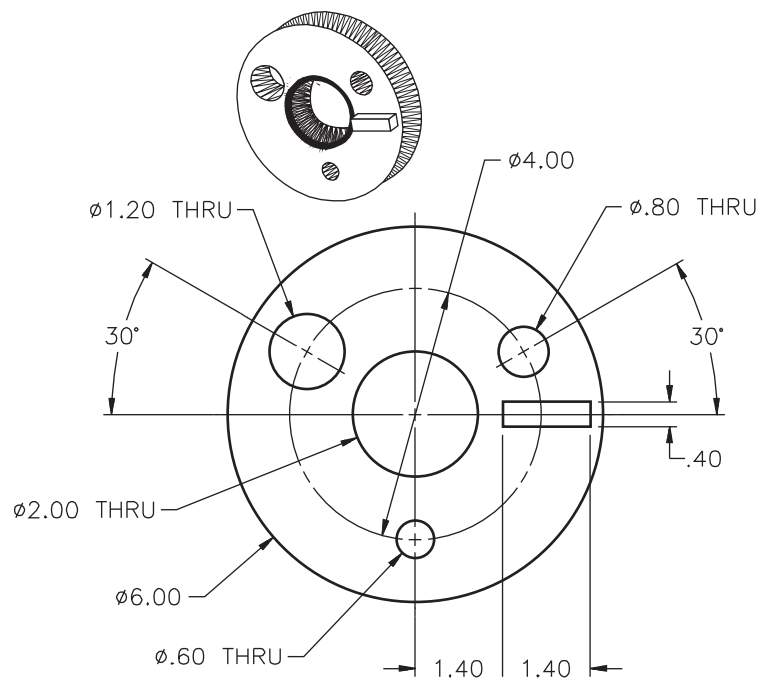

Fig. 7-15
6. Draw the front view of the locking end cap shown in Fig. 7-15. Start the drawing at the center of the object using absolute coordinates of **5,5**. Use absolute coordinates to locate the centers of the four holes, and use polar tracking with the **RECTANG** command to draw the rectangular piece. Save the drawing as **prb7-6.dwg**.